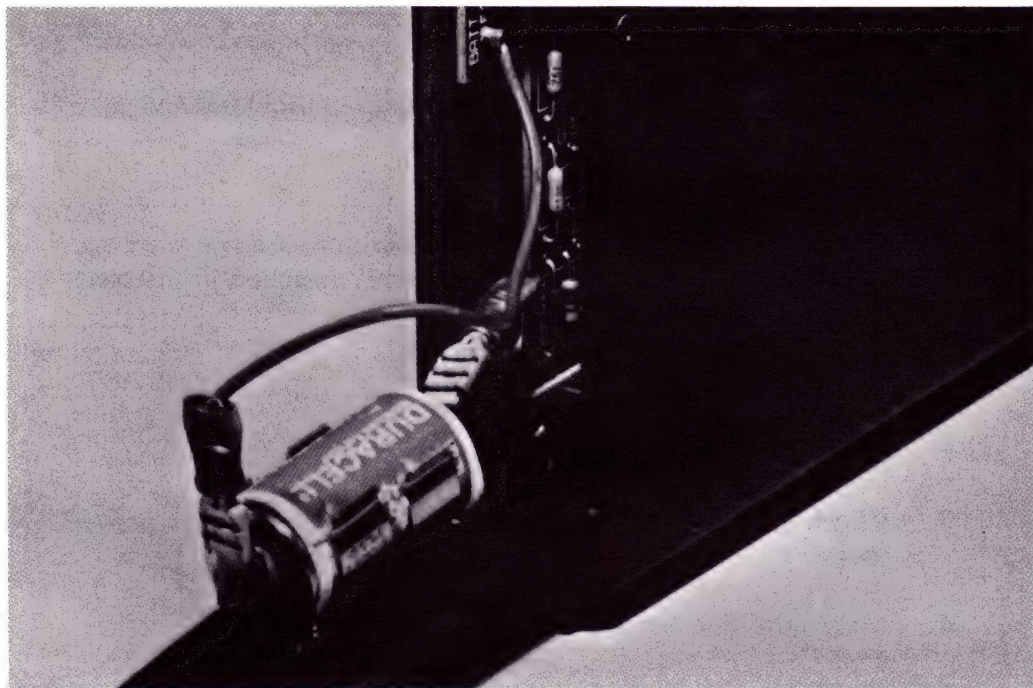

Figure 8-1 CPU Battery
2. Open battery door (see Figure 8-1).